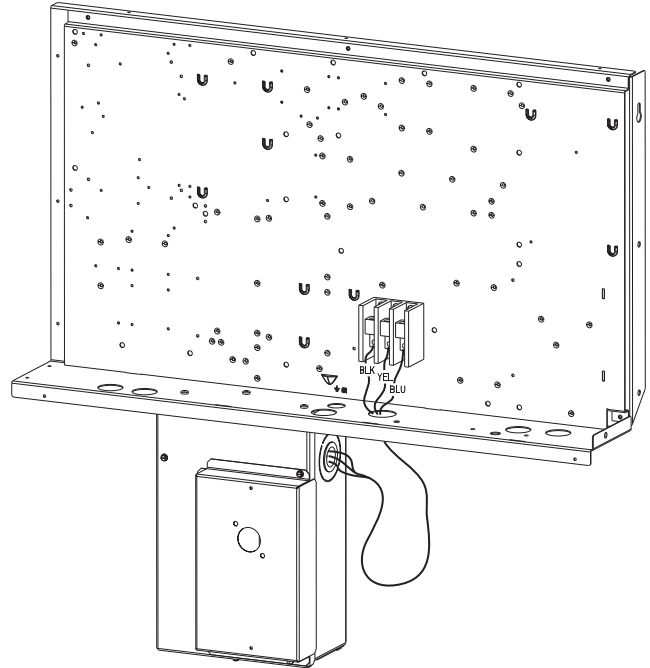

Fig. 27 — Location of Non-Fused Disconnect Enclosure
2. Remove three hex screws on the NFD enclosure: two on the face of the cover and one on the bottom. See Fig. 27.